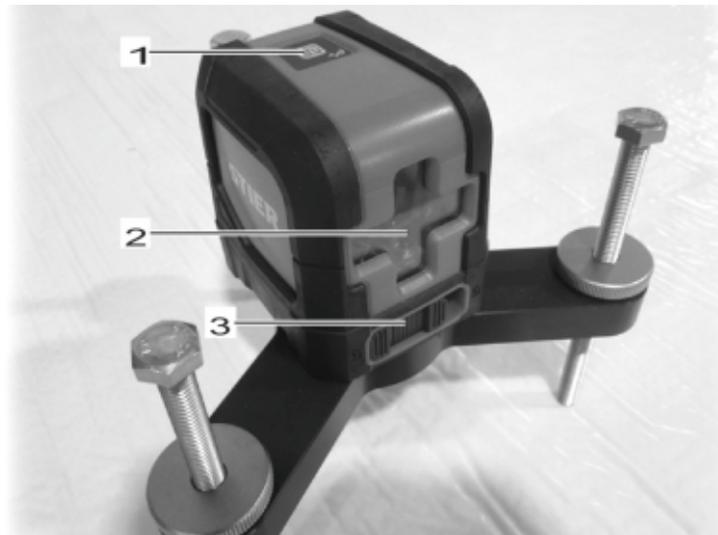

Figure 67
- ⇒ **Figure 67 -1-** – On/Off switch
- ⇒ **Figure 67 -2-** – Laser beam outlet opening
- ⇒ **Figure 67 -3-** – On/Off self-levelling